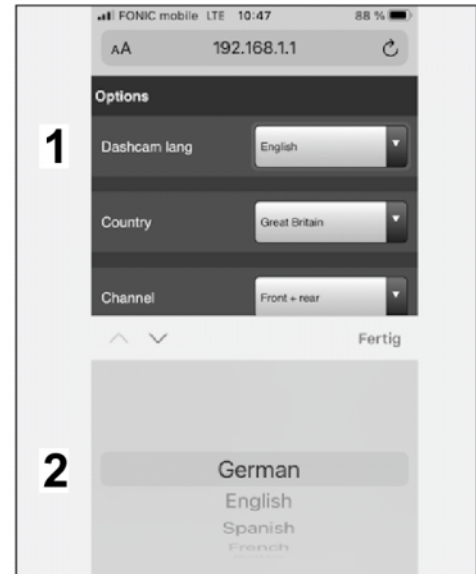

Figure 27
5.3 Basic settings for front camera (dashcam) in the "Options" (⇒ *Figure 27*) menu item
Example: German (⇒ *Figure 27*)